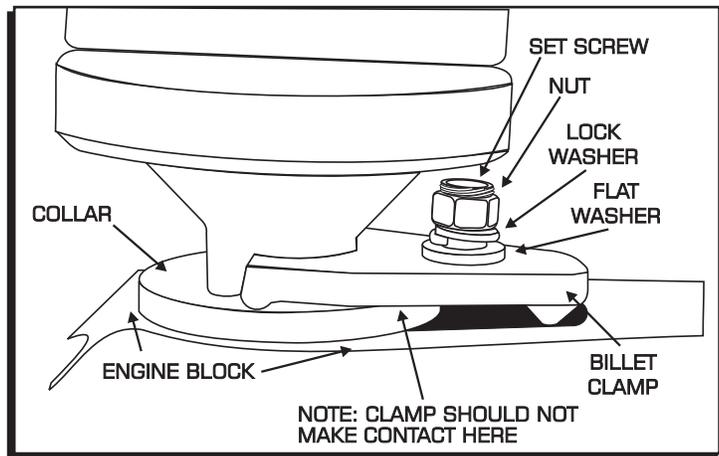

Figure 1 Billet Hold Down Clamp Installation.
3. With the housing in the correct timing position, tighten the nut. Figure 1 shows the correct installation of the clamp. If the clamp is excessively angled and the end points of the clamp do not properly seat, the clamp will not tighten properly.